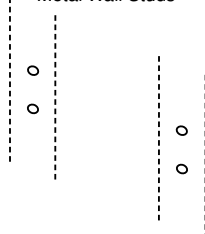

Fig. 2
- 4 Remove the Wall Bracket and reconfirm that the marks made in the previous step are located in the center of the metal wall studs. Relocate the marks as required to ensure that they are in the center of the metal wall studs (refer to Figure 2).